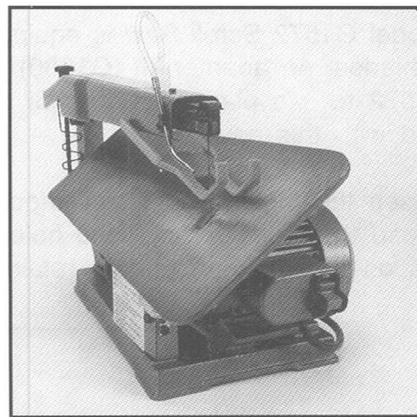

Figure 3
1. Turn the Tilt Adjustment Knob counterclockwise and lift the right edge of the table. When the table reaches the desired angle, tighten the knob. See Figure 3.